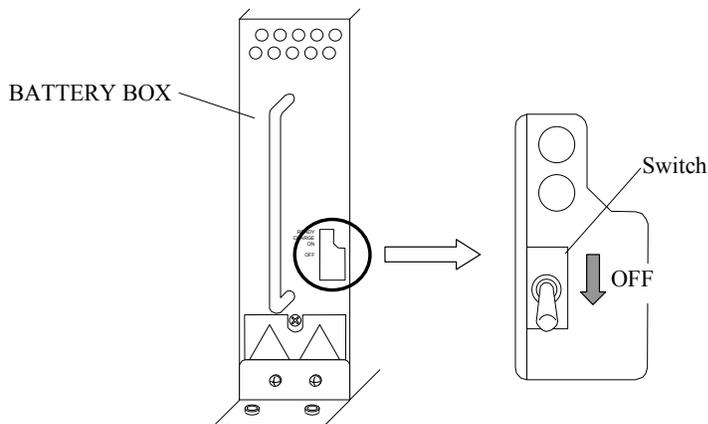

Fig. T10.2-1 Switch on Battery Box
- a. Turn off the switch on the replaced Battery Box. (Refer to Fig. T10.2-1.)